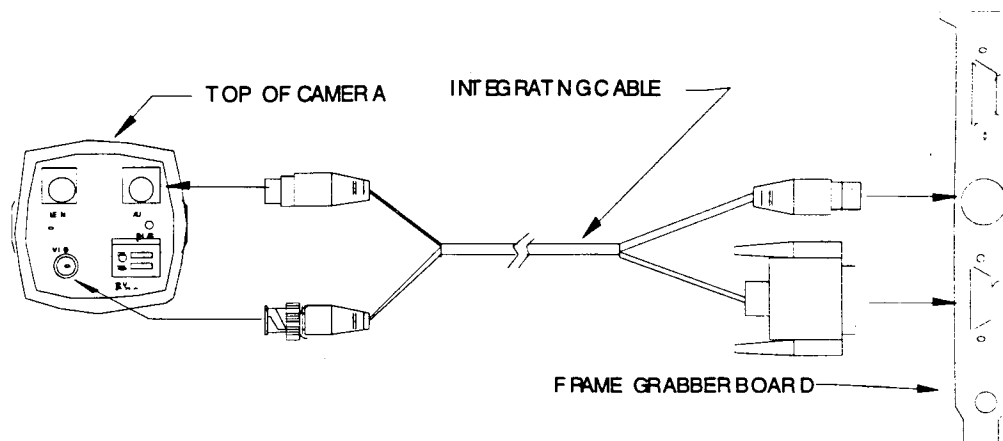

Figure 6. Attaching the Integrating Cable
- Step A7:** Next, connect the integration cable to the camera by first attaching the BNC and 8 pin mini DIN connectors of the integrating cable into the camera's "Video" and "AUX" ports respectively. (See Figure 6).
- Step A8:** Connect the integration cable to the frame grabber card by attaching the 9 pin DB video input connector and 8 pin mini DIN integration control connector of the integrating cable into the frame grabber board. (See Figure 6).